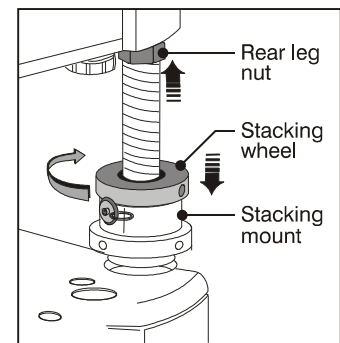

Figure 2-19 Secure All Hardware
- Turn all 3 stacking wheels until they are **firmly secure** against the rest of the stacking mount. See Figure 2-19.